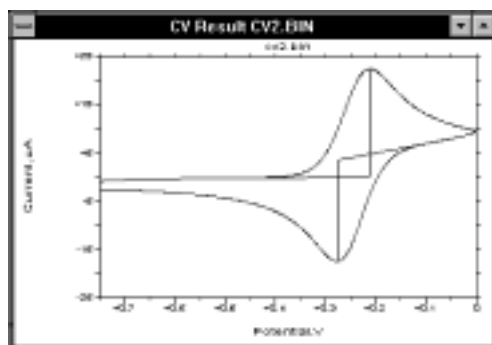

Figure 7-4. Tailed current response.
- b) **Tail** curves - The baseline is the line between two points on the I vs. E curve 50 mV apart in a range of 250 mV preceding E_p (Figure 7-4).